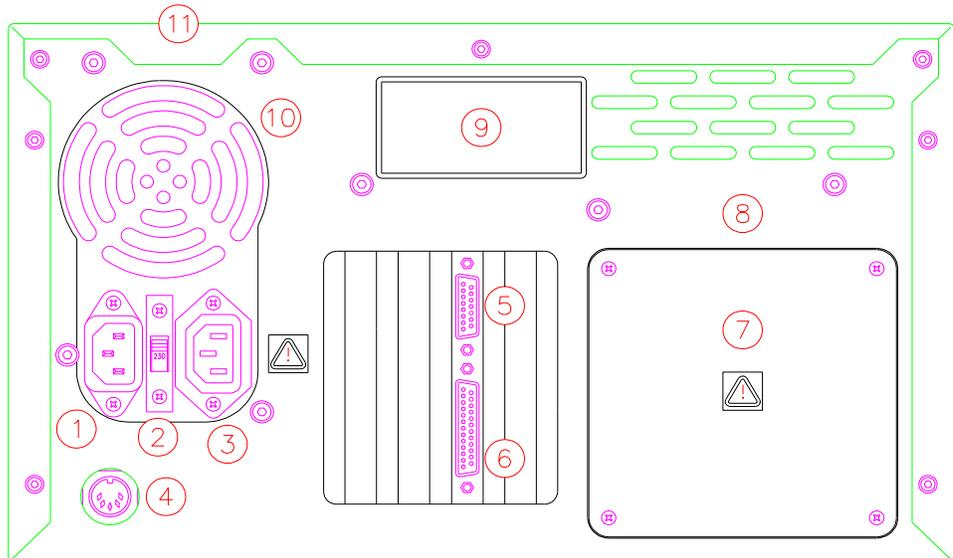
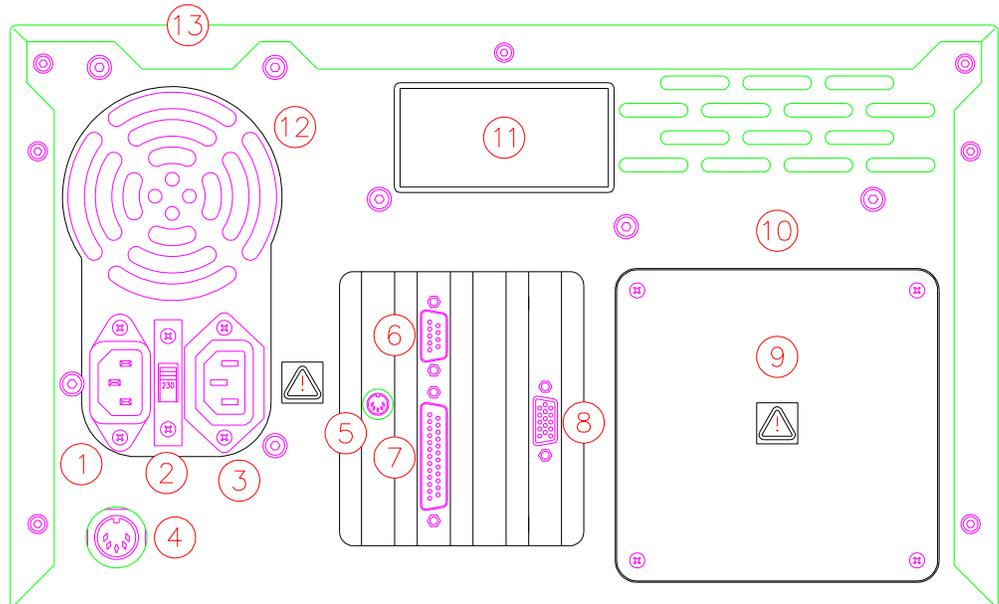

Figure 4 MRX_{II} and MRX_{plus} Back Panel
Figure 5 The MRX_{Revelation} Back Panel
The position of the voltage selector (see Figure 4 or Figure 5) is very important and must be adjusted to match the line voltage of the mains power supply **before** switching the Reader on.
2.	Plug the power cord into the Monitor Mains Socket (labeled #3 on Figure 5).
3.	Plug the monitor cable into the Monitor Port (labeled #8 on Figure 5).
Before switching the Reader on, note the position of the voltage selector (see Figure 4 or Figure 5). The position of the selector is very important and must be adjusted to match the line voltage of the mains power supply.